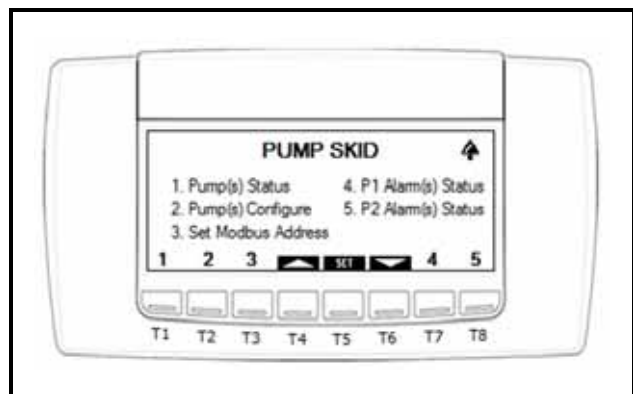

Figure 3-4 - Pump Skid controller Main Menu - Use the arrows to scroll to 3 to Set Address
- Five menu items are available to choose from (see Figure 3-4).